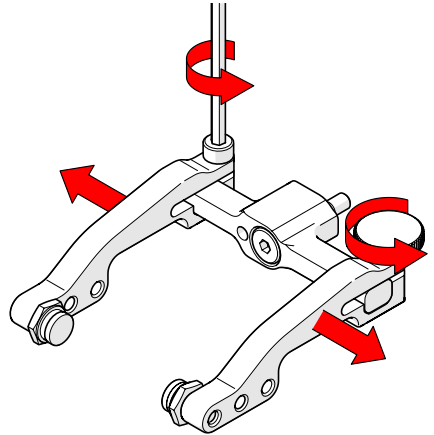

Fig. 213 - Remove arms
2. Loosen the probe holder arm adjustment knob and arm clamp screw. Slide the arms from the yoke (Fig. 213).